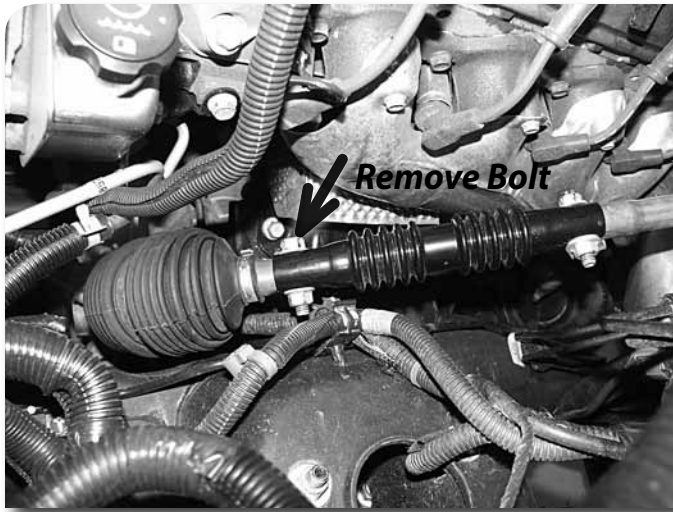

Figure 16
27. Mark orientation of steering shaft. Remove bolt that connects the steering shaft above steering rack and pinion. Do not disconnect shaft. Figure 16